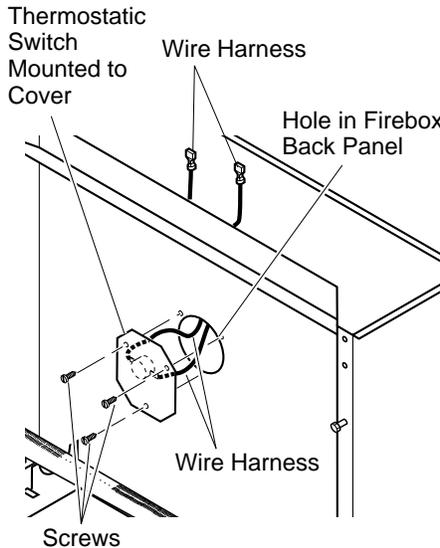

Figure 19 - Assembling Thermostatic Switch and Cover to Firebox Back Panel
- Feed terminal ends of wire harness into the hole in firebox back panel from front of firebox. Pull the ends of the harness to the top of firebox near blower (see Figure 19).
- Align holes in the switch/cover assembly with holes in firebox back panel. Using 3 screws from step 11, attach assembly to firebox back panel. Tighten screws firmly (see Figure 19).